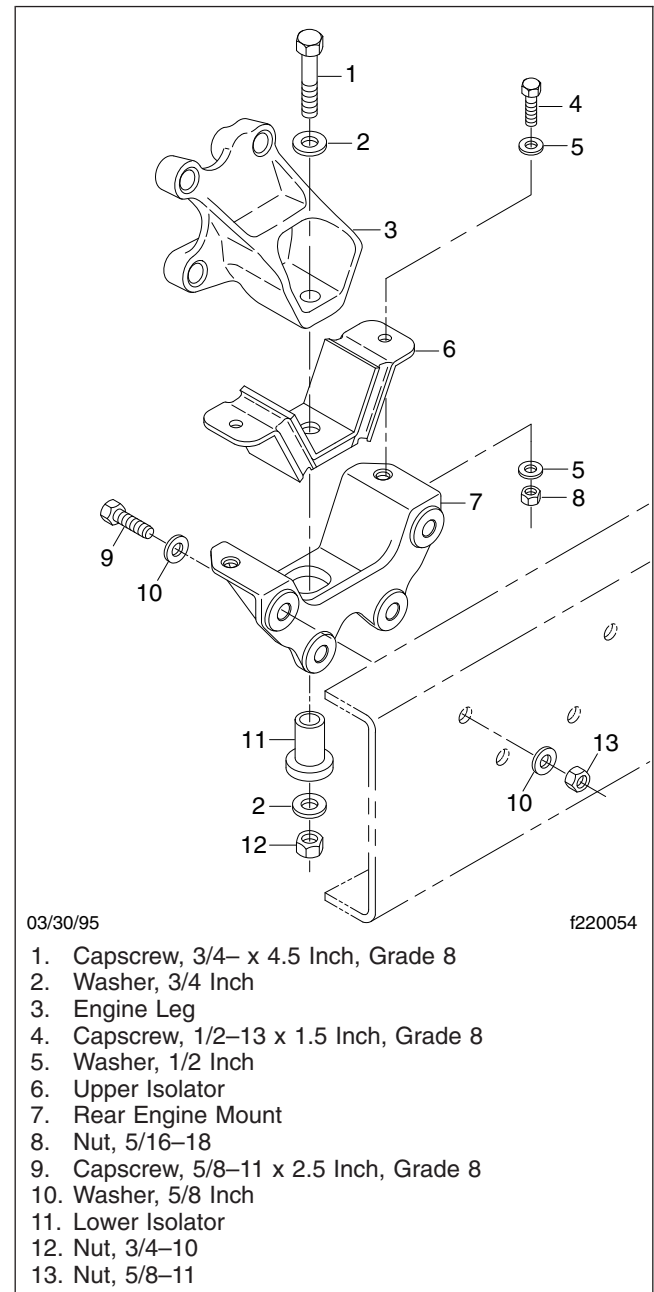

Fig. 13, Rear Engine Mount Assembly (pre-EPA07 engines)
Frame brackets and components secured with Huck-bolt® fasteners do not require a torque check, however, they should be inspected for damage. Frame brackets and components secured with conventional bolts and nuts are to be checked at initial maintenance (IM). See Fig. 13 for pre-EPA07 engine mounts. Check the torque of frame fasteners to offset the effects of "bedding in" (or seating). When possible, always check the torque of the nut, not the bolt head. This will give a true torque reading by